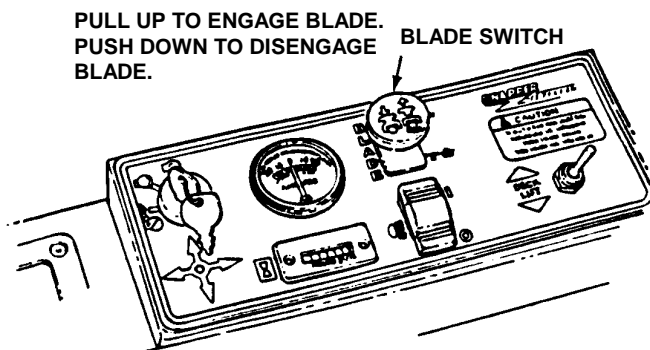

FIGURE 3.2
3.1.4. Check Blade switch to insure it works freely. Switch is pulled "UP" for blade engagement or pushed back "IN" for blade disengagement. See Figure 3.2. **IMPORTANT:** Disengagement stops blades.
3. Push blade switch in to "OFF", blades disengaged position and engage parking brake. See Figure 3.2.
1. Push the blade switch in to "OFF" position to disengage or stop the mower blades. See Figure 3.2.